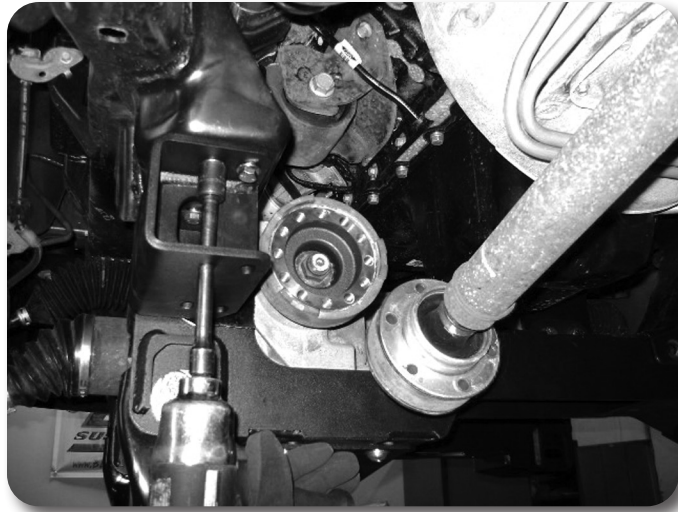

Figure 10
20. Install the front crossmember in the front lower control arm pockets and fasten with the original lower control arm hardware Figure 10. Run bolts from front to rear. Leave hardware loose.
22. Install the sway bar drop brackets with new 3/8" x 1-1/4" bolts, washers and nuts. Run hardware from bottom - up, snug but do not tighten at this time. Attach the crossmember 18mm nut with 3/4" USS washer .Figure 10, 11